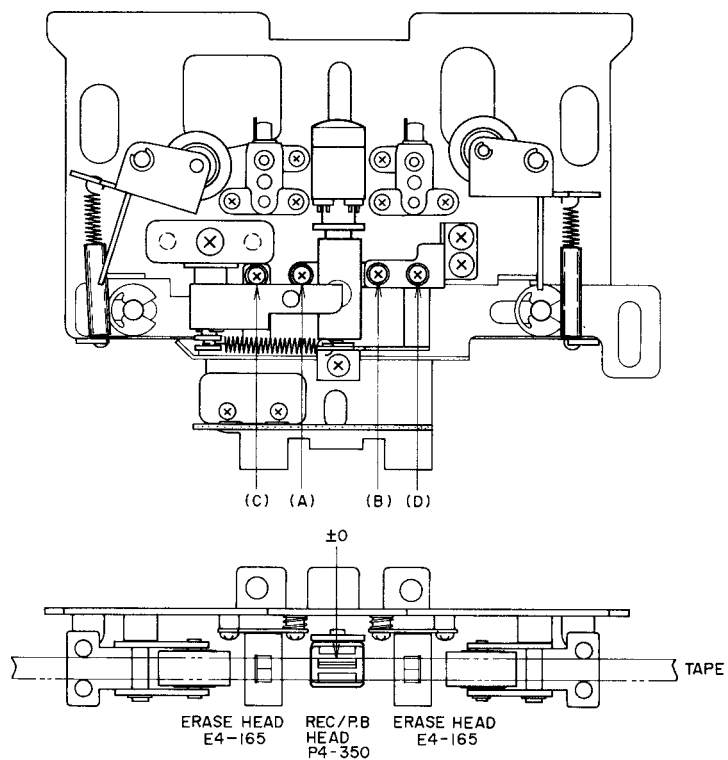

Fig. 10
**Recording/Playback Head (P4-350) Alignment (Refer to Fig. 10)**